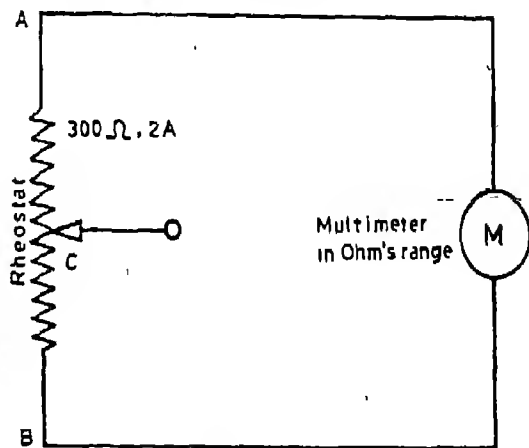

Fig. 3.2 Rheostat connected as a fixed resistance
- (i) Connect the circuit as shown in Fig 3.2 and measure the value of fixed resistance